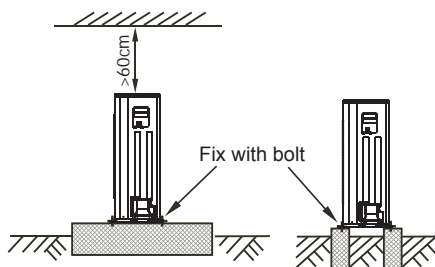

Fig.6-15
- Make concrete foundation according to the specifications of the outdoor units. (Refer to Fig.6-15)
- Fasten the feet of this unit with bolts firmly to prevent it from collapsing in case of earthquake or strong wind. (Refer to Fig.6-15)